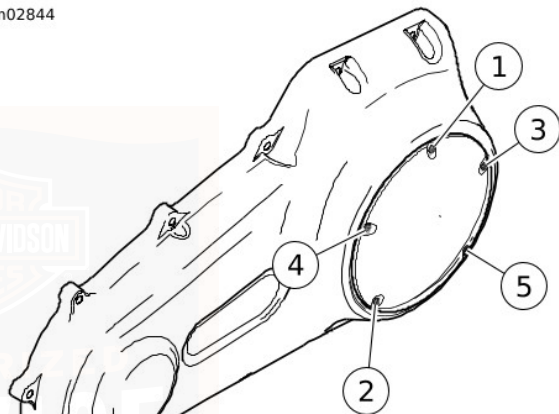

Figure 47. Clutch Cover Torque Sequence
- c. Secure inspection cover with screws with captive washers (3).
- d. See Figure 47. Tighten in sequence shown to 9.5–12.2 N·m (84–108 **in-lbs**).